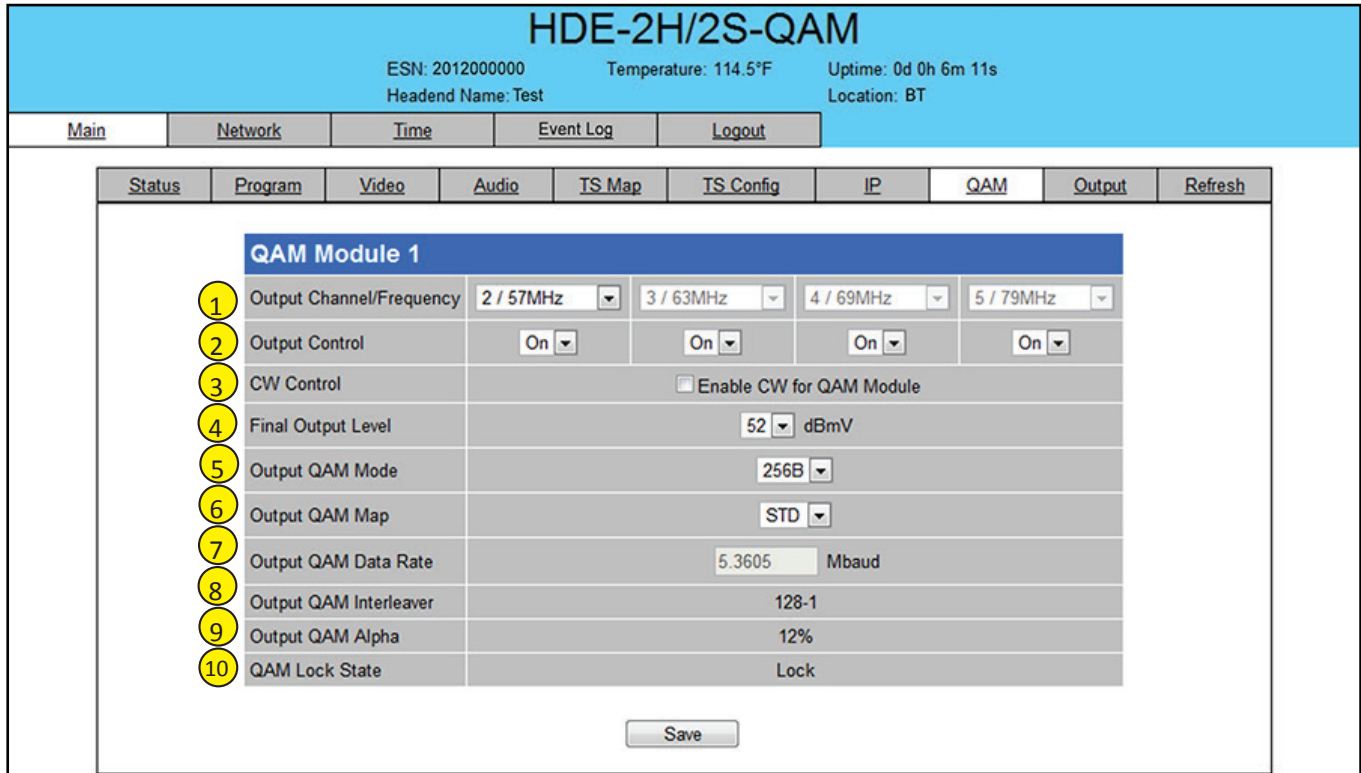

Figure 5.9 - "Main > QAM" Screen
The "Main > QAM" screen (Figure 5.9) is a "read and write" screen to assign QAM parameters to the TS:
- 1 **Output Channel/Frequency:** User must assign an RF channel number to the RF QAM output of the Quad-QAM module (i.e. RF channel 2, as shown in Figure 5.9). The remaining three RF QAM channels will be automatically assigned to the next adjacent channels (i.e. RF channels 3, 4, and 5). The range is NTSC channels 2 to 155.